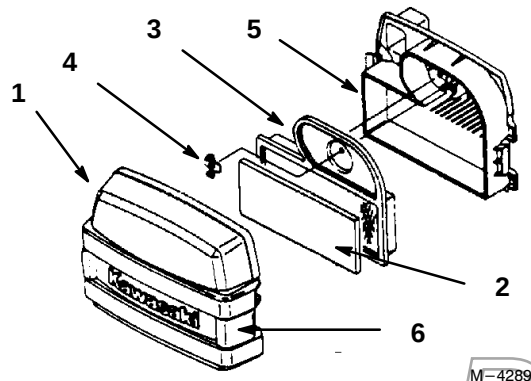

Figure 29
- 2. Clean around the air cleaner to prevent dirt from getting into the engine and causing damage. Unlatch two side latches and remove the air cleaner cover (Fig. 29).
- 3. Carefully remove the foam element from the paper element (Fig. 29).
- 4. Unscrew the wing nut and remove the paper element (Fig. 29).
1. Carefully slide the foam element into the paper air cleaner element (Fig. 29).
2. Place the air cleaner assembly onto the air cleaner base and install wing nut (Fig. 29).
3. Install the air cleaner cover and latch (Fig. 29).